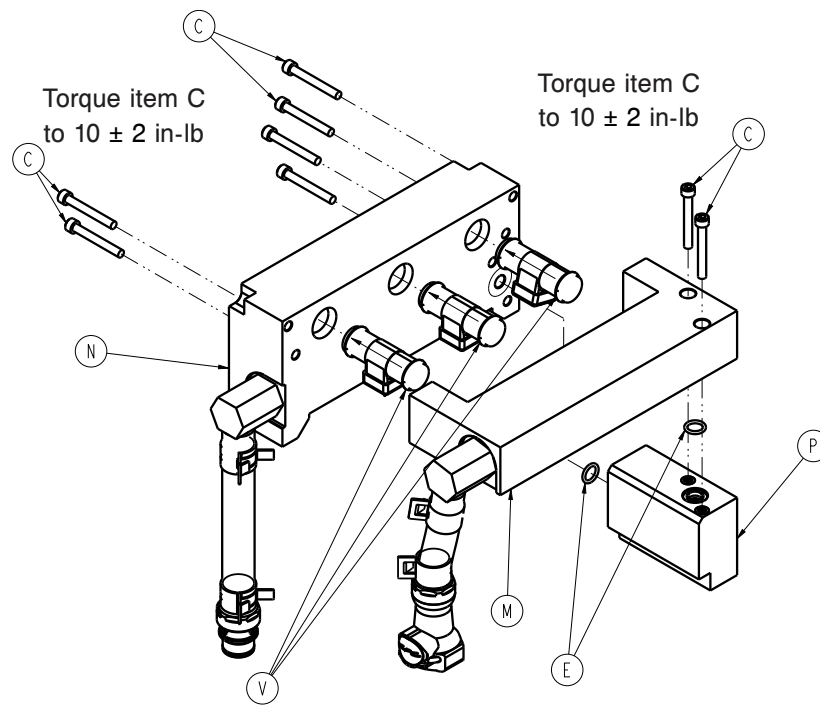

Figure 44 – Manifolds
16. Using 7/16" socket loosen the two nuts(D) that secure the MCB bracket to the control assembly bracket.
19. Using a 5/32 Allen, remove and save the four screws (C) that secures the return manifold assembly (N) to the supply manifold assembly (M). (Figure 44)